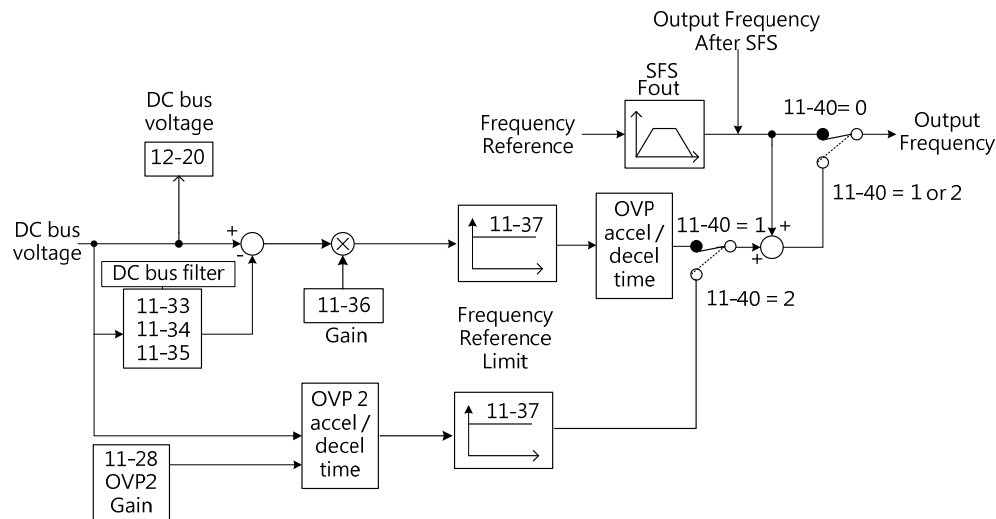

Figure 4.3.91 OVP Operatron
- When the speed reference is reduced, the motor will start to decelerate. When the inverter is operating at a fixed output frequency and excessive regenerative energy back to the inverter is detected, the inverter will accelerate the motor in order to reduce the DC-bus voltage. Refer to figure 4.3.91.